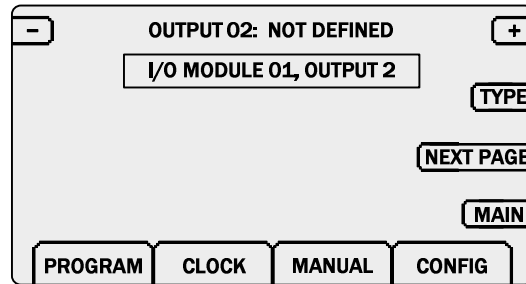

Figure 2 : Outputs programming screen 1
- 2 Choose the output to program by using the + and - keys (Figure 2). Note that the physical location of the output is indicated in the rectangle below the output identification.